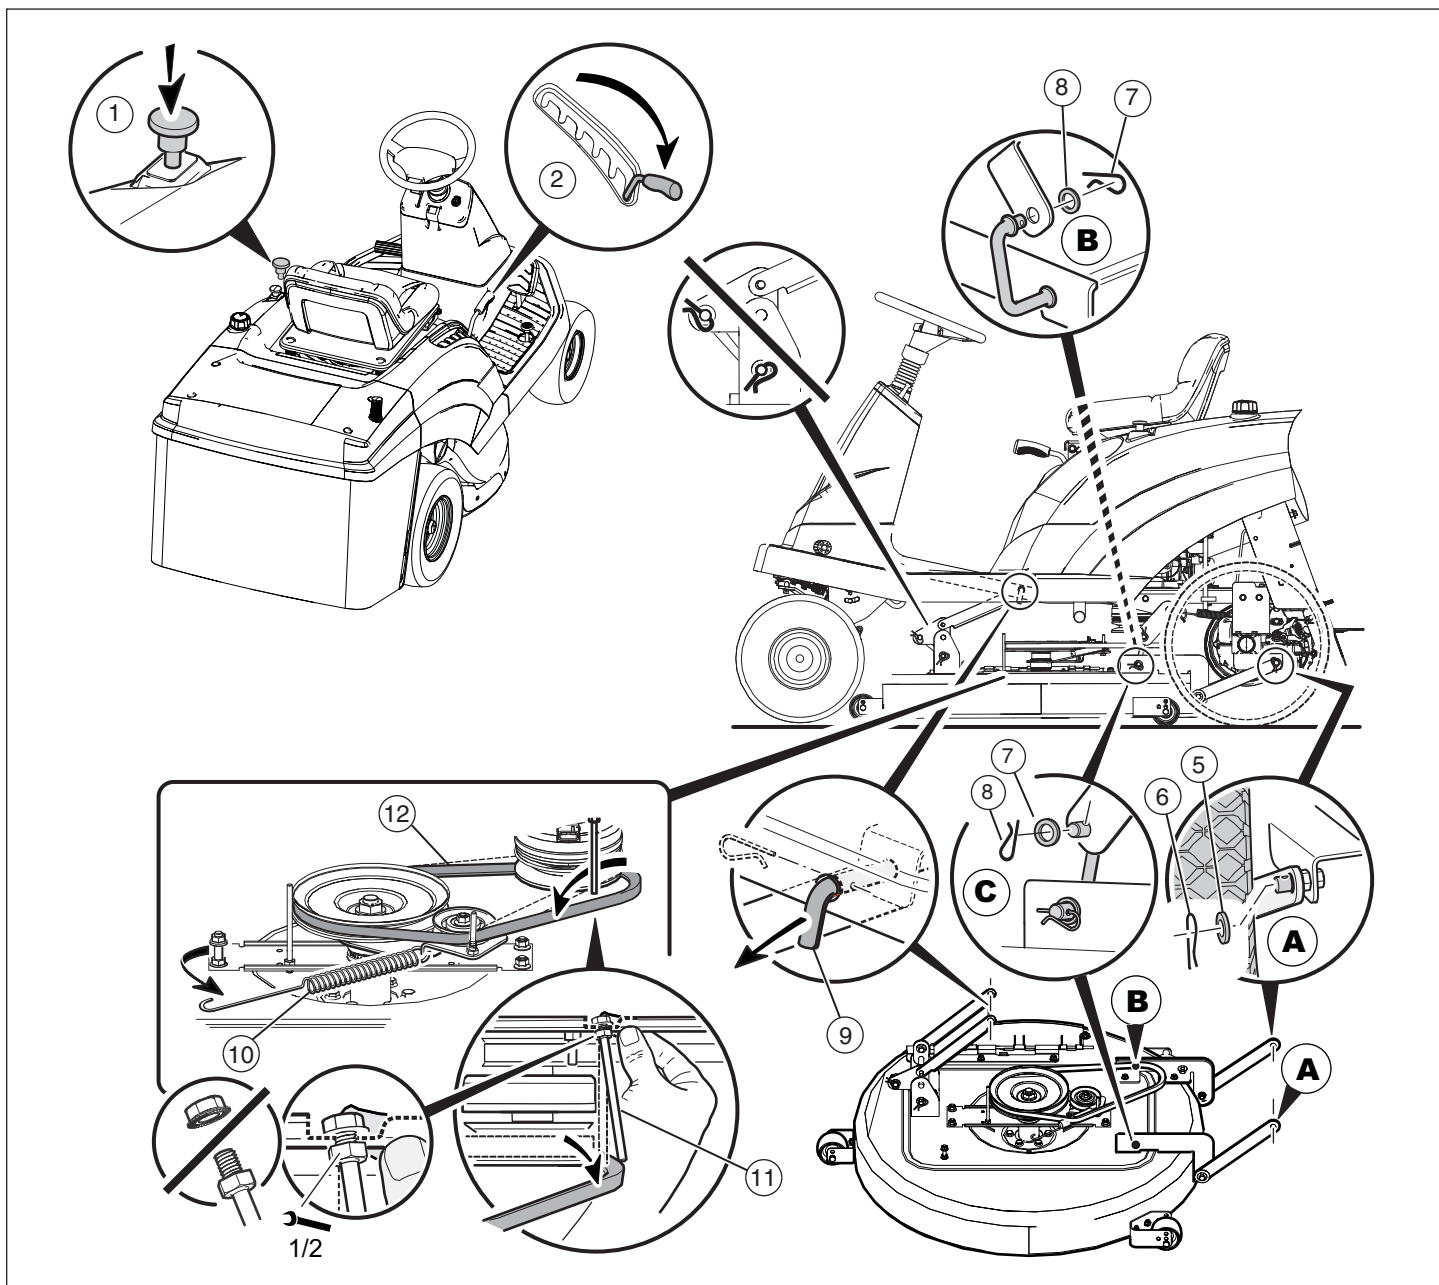

Figure 35
1. Move the blade rotation control (1) to the DISEN-GAGE position (see **Figure 35**).
2. Move the lift lever (2) to the low cut position.
3. Remove the hair pins (5) and washers (6) from the rear suspension arms (see **A, Figure 35**).
4. Remove the hair pins (7) and washers (8) from the suspension links (see **B and C, Figure 35**).
5. Disconnect the front hanger (9) from the frame support.
6. Disconnect the extension spring (10) from the mower deck post.
7. Loosen the belt guide (11) from the stack pulley.
8. Remove the mower drive belt (12) from the engine pulley.